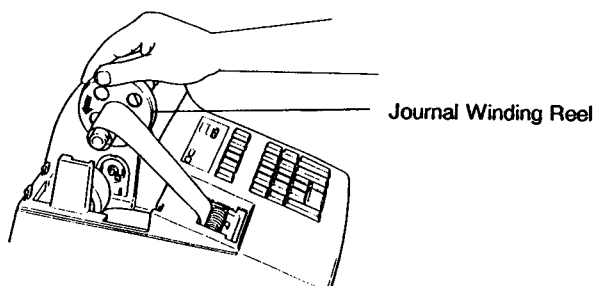

Fig. 4
4. Wind up the paper end on the Journal Winding Reel two or three times. (Fig. 4)